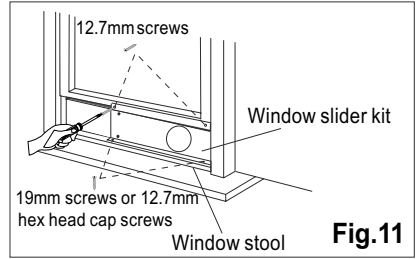

Fig.11
3. Close the window sash securely against the window slider kit.(Fig.11)
4. Drive two 12.7mm screws to secure the window slider kit to the window sash. (Fig.11)
5. Secure the window slider kit to the window stool(Fig.11):